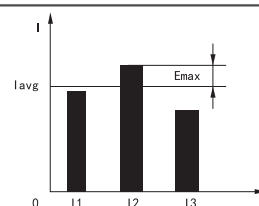

Figure 7 Current imbalance
As shown in Figure 7: The protection starts the alarm according to the true RMS of the ground current. It starts the alarm delay when the ground current is greater than the action threshold (1) and issues an alarm when the action delay time (2) expires, and the grounding alarm DO acts. When the ground current is less than the return threshold (3), the protection starts the return delay, and removes the alarm when the return delay time (4) expires, and the grounding alarm DO returns. The return threshold must be less than or equal to the action threshold.